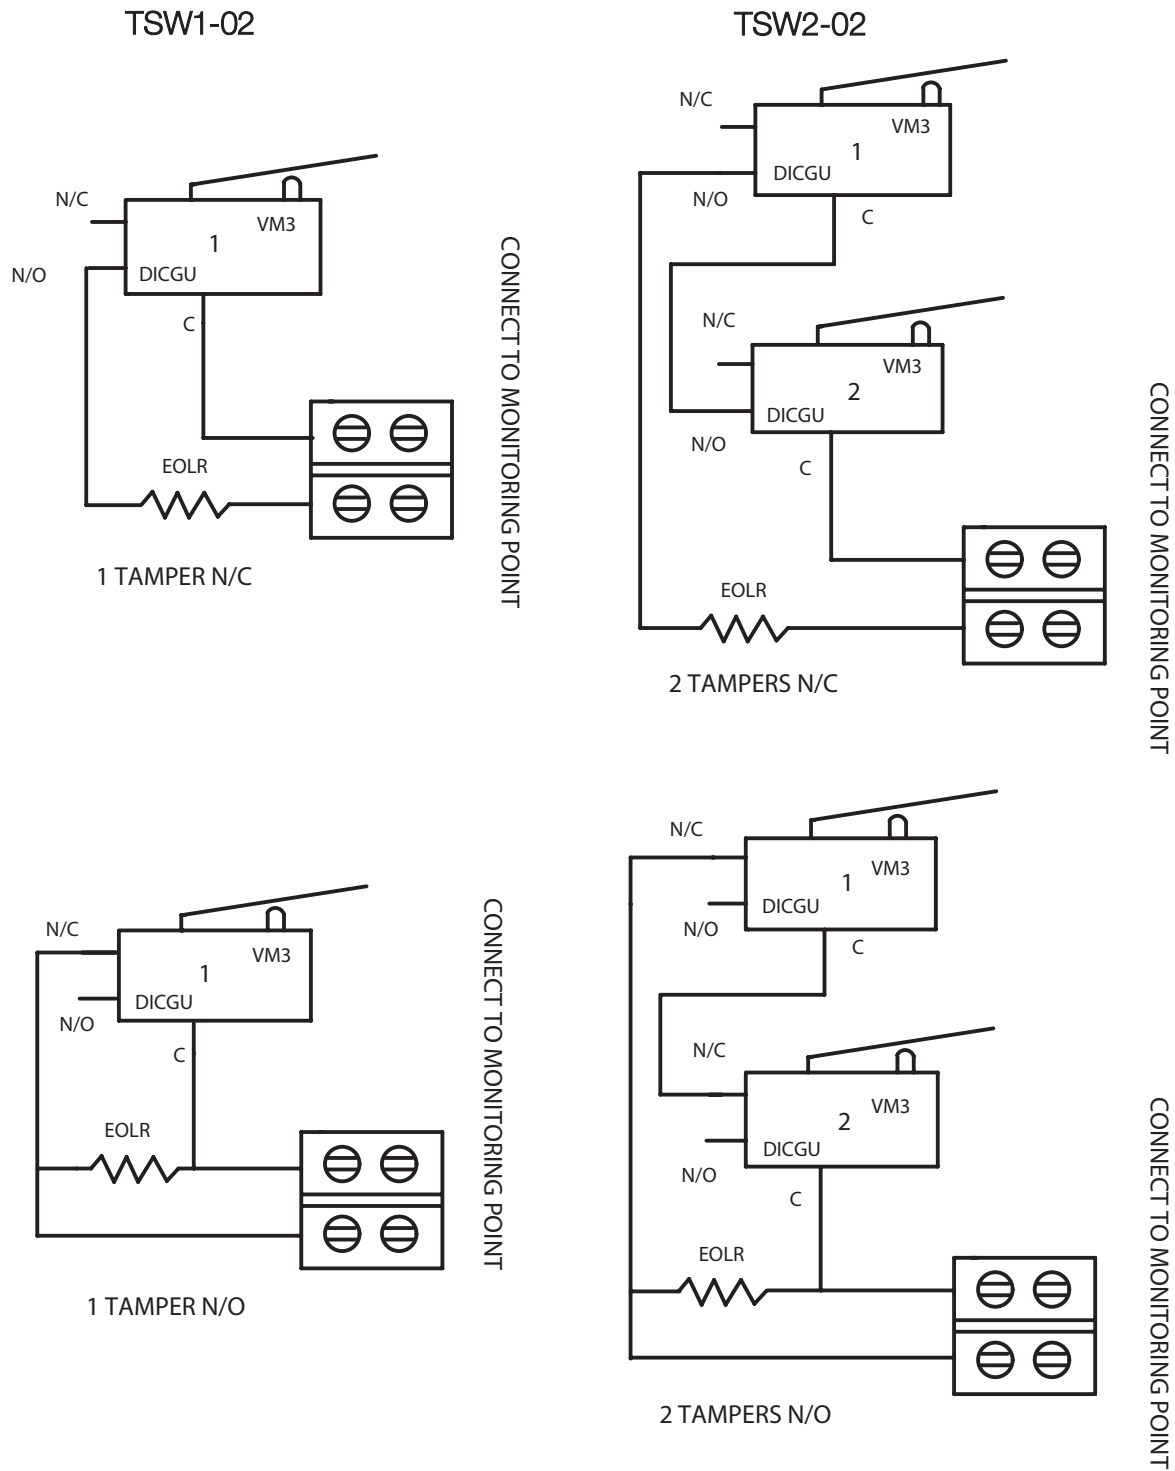

Fig. 3
- 12 If Tamper Switch is required use part # TSW1-02 or TSW2-02, see Fig 3.